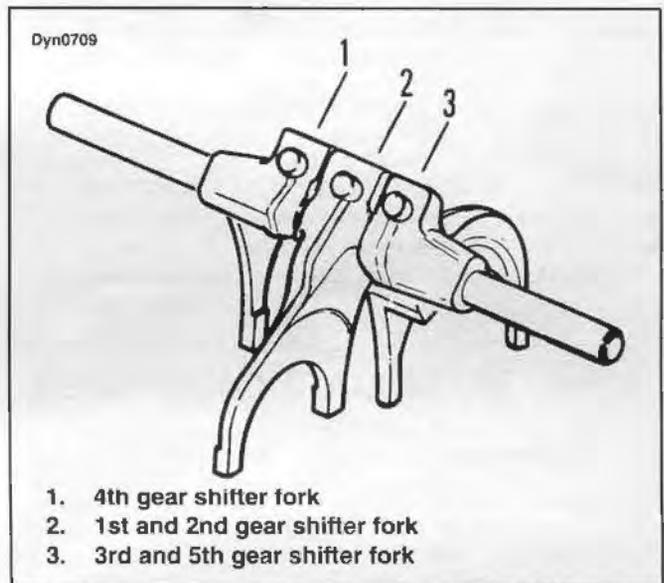

Figure 7-10. Shifter Fork Identification
1. See Figure 7-10. The forks are different from each other and are identified as shown.